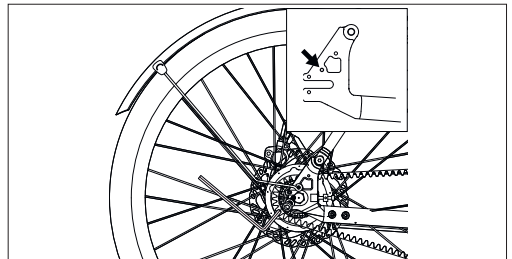

Figure 6-2
- After fastening the upper bracket, use a 4 mm Allen key to remove the 2 screws at the dropout. Then, align the legs of the fender with the installation holes, as shown in **Figures 6-2 and 6-3**, and then re-tighten the screws.